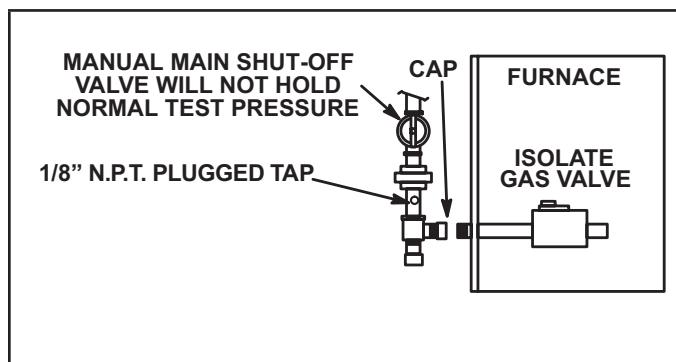

FIGURE 54
- 5 - A 1/8" N.P.T. plugged tap or pressure post is located on the gas valve to facilitate test gauge connection. See figure 54.
When testing pressure of gas lines, gas valve must be disconnected and isolated. See figure 54. Gas valves can be damaged if subjected to pressures greater than 1/2 psig (3.48 kPa).